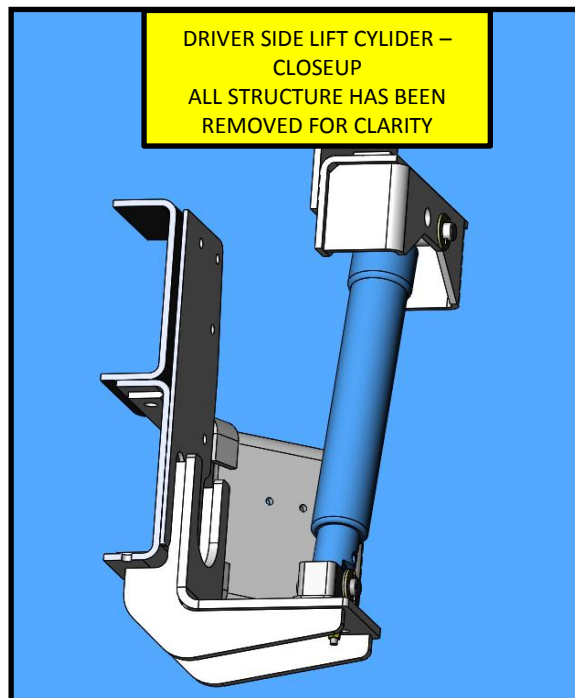

FIG. 13-2
22. Officer side lift cylinder, viewed from underneath with all structure removed for clarity. Refer to FIG. 13-2.